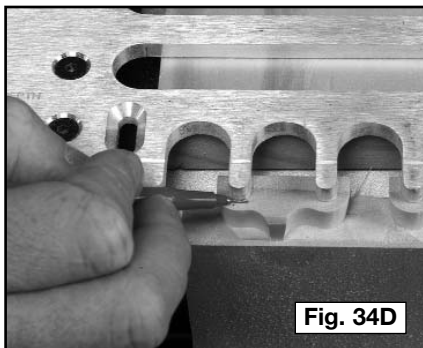

Fig. 34D
**Step 5** - Use a pencil to mark the location of the ends of the templet fingers on the wood (Fig. 34D).